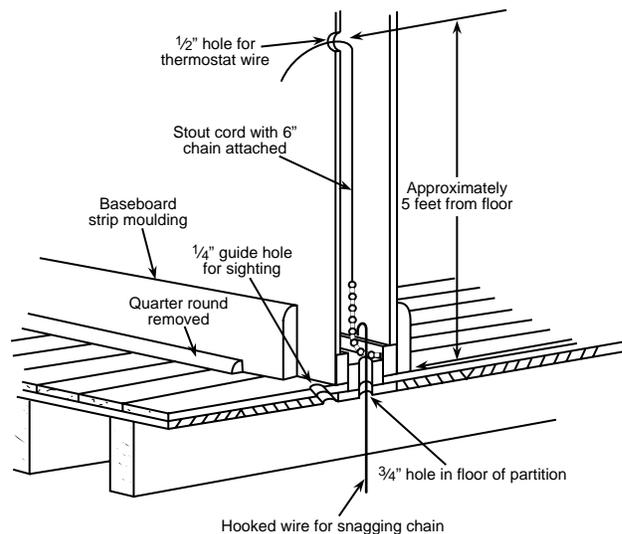

Figure 1. Routing thermostat wires
1. Probe for obstructions in partition before drilling  $\frac{1}{2}$ " hole in wall at selected location. Take up quarter round and drill a small guide hole for sighting (see fig. 1). From basement, drill  $\frac{3}{4}$ " hole in partition floor next to guide hole. In buildings without basements, drill  $\frac{1}{2}$ " hole through ceiling and into partition from above.